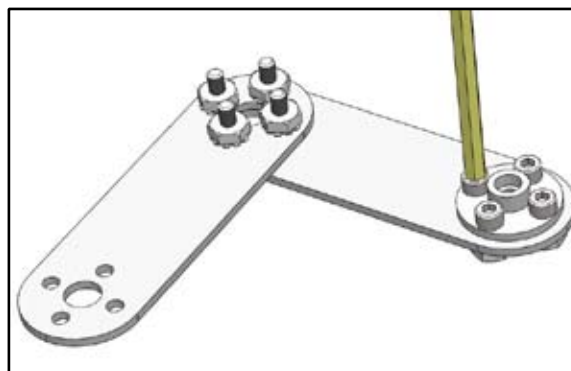

Figure D5
- 5) Take two more flat brackets and connect them with screws to make a 90° angle. Remove the servo's horn. Using four 5/16" SHCSs and kep nuts, attach the horn to one of the flat brackets so it will be the one on top after attaching it to the servo (Figure D5).